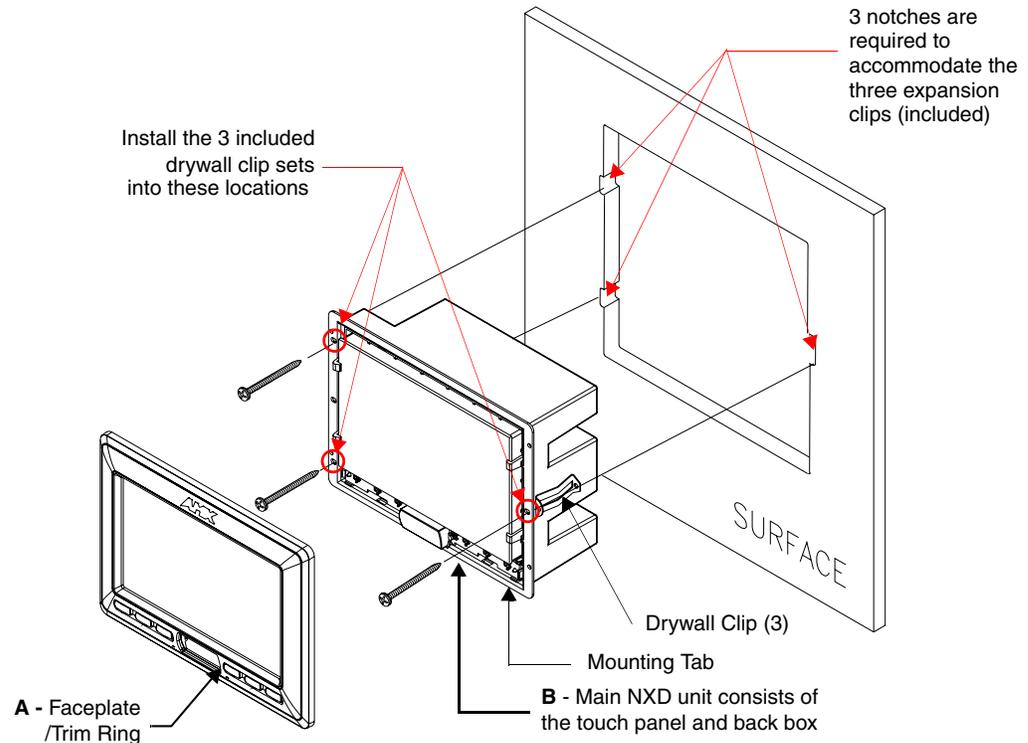

FIG. 37 Wall Mount panel (NXD) installation configuration for drywall surfaces
3. Remove the Faceplate/bezel (A in FIG. 37) from the main NXD unit (B in FIG. 37) by gripping the faceplate and pulling with gentle outward force.
8. Install the three sets of drywall screws and expansion clips into the three oval notch locations along both sides of the main unit (**B** in FIG. 37).
11. Place the Faceplate (**A** in FIG. 37) back onto the main NXD unit (**B** in FIG. 37). *Make sure to align the Microphone, Light, and PIR Motion sensor locations to their respective openings on the front faceplate/bezel.*